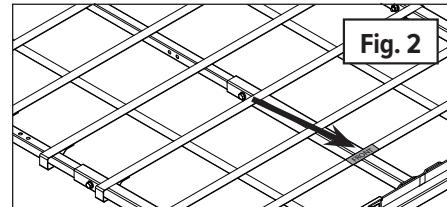

Fig. 2
1. **(Fig. 2)** Start with the Collector Frame with the Support Grid on top and you can see the "FRONT" label.